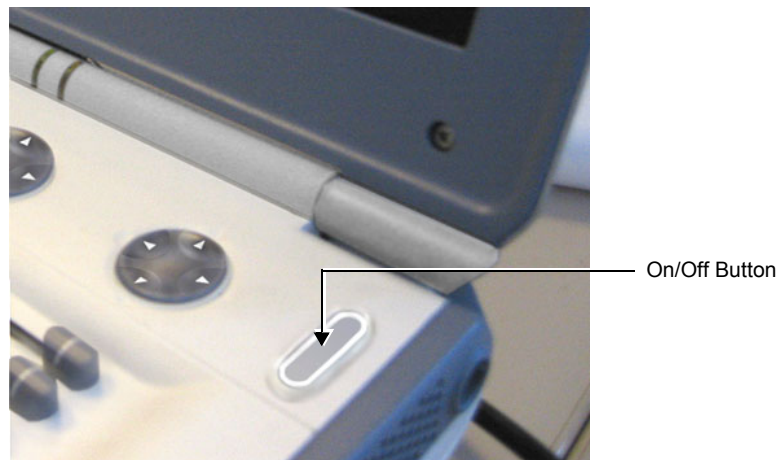

Figure 4-5 On/Off Button on Control Panel
- 2) Hold down the **On/Off** button (Figure 4-5) on the control panel for 3 seconds. The system automatically performs an initialization sequence which includes the following: